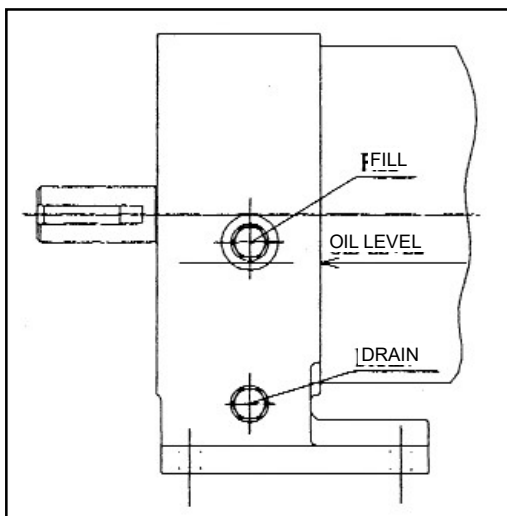

Figure 9
- Before running pump for the first time check oil level as Figure 9.
- After the first 120 hours of operation, drain oil from lower plug hole and refill with fresh oil as Figure 9. Use correct grade of oil as below or other reputable.